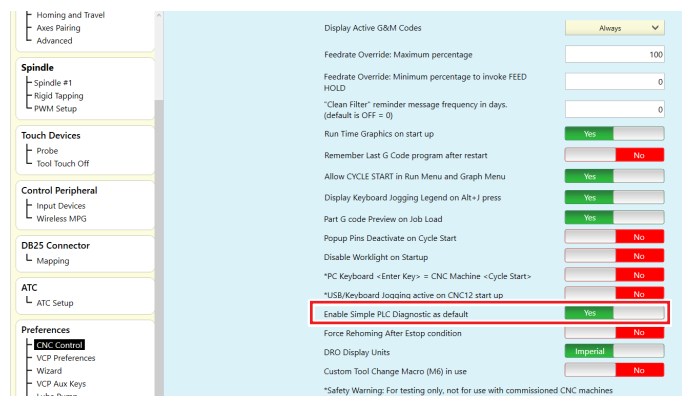

FIGURE 2
C. Select “CNC Control” under the “Preferences” header, and then toggle the option “Enable Simple PLC Diagnostic as Yes” (see Figure 2).